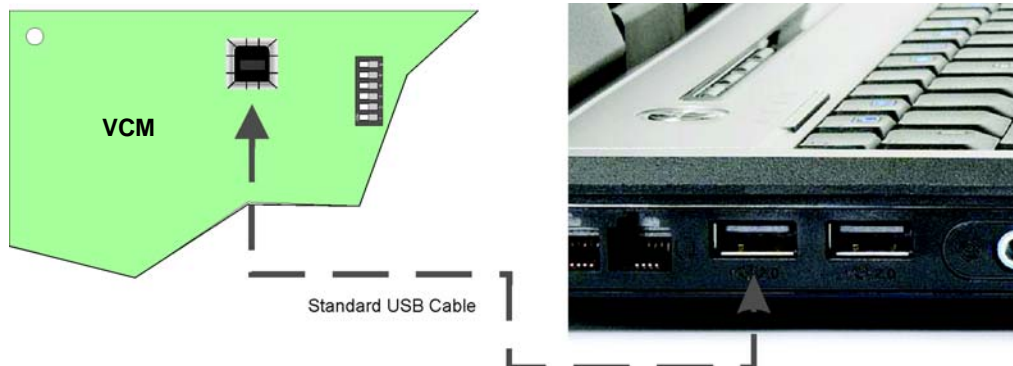

Figure 11-8 USB Cable Connections
2. Connect the PC to the VCM using a standard USB cable. See Figure 11-8.